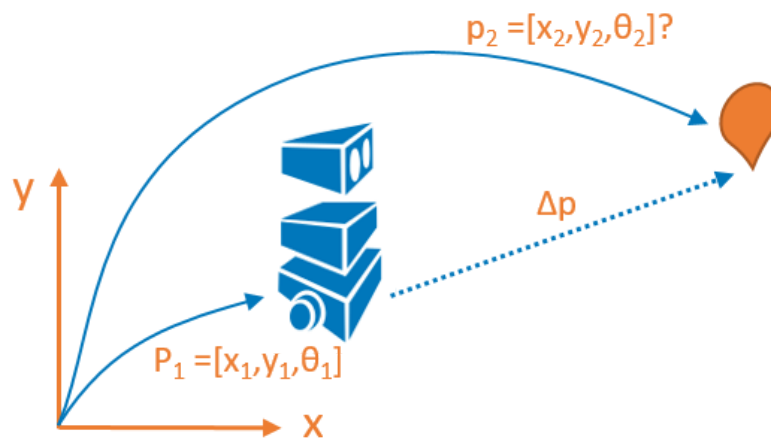

Fig. 1: Example of an initial 2D robot pose (p_1) and its resultant pose (p_2) after completing a motion (Δp).
- **2D pose:** In most cases involving mobile robots, the location alone is insufficient. We need an additional parameter known as orientation or *bearing*. Therefore, a robot's pose is usually expressed as $[x, y, \theta]^T$ (see Fig. 1). *In the rest of the book, we mostly refer to this one.*
The composition of poses is a tool that permits us to express the *final* pose of a robot in an arbitrary coordinate system. Given an initial pose p_1 and a pose differential Δp (pose increment), *i.e.* how much the robot has moved during an interval of time, the final pose p can be computed using the **composition of poses** function (see Fig.1):